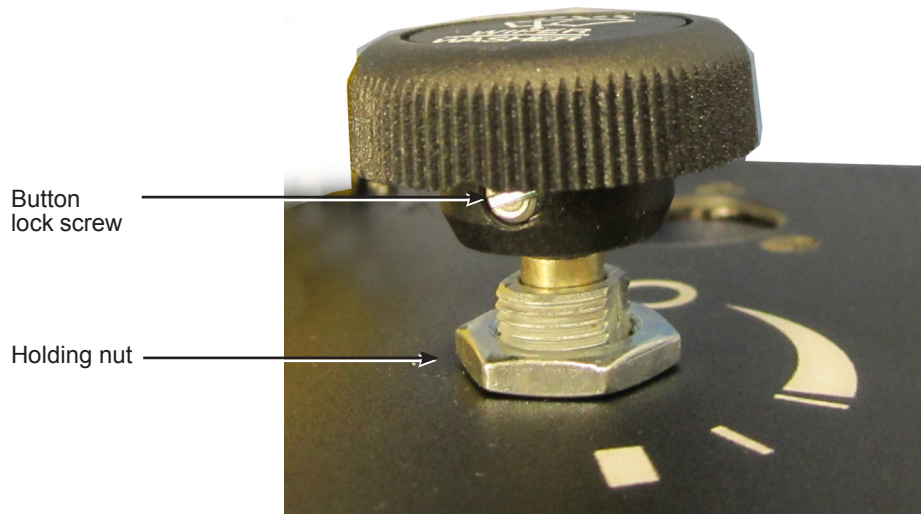

Figure 2 - Wiper Windshield Washer Control
- 1.3. Disassemble the wiper windshield washer control. See Figure 2.